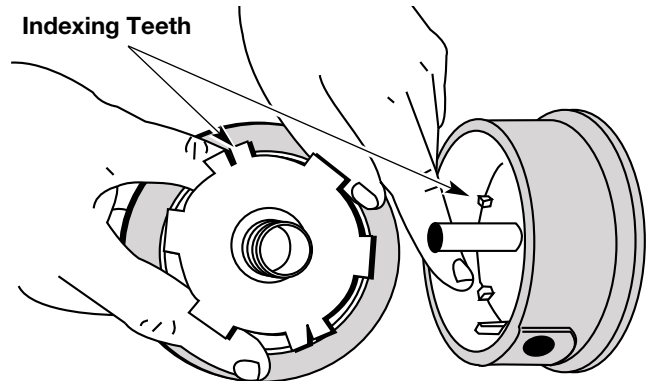

Fig. 34
5. Check the indexing teeth on the inner reel and outer spool for wear (Fig. 34). If necessary, remove burrs or replace the reel and spool.